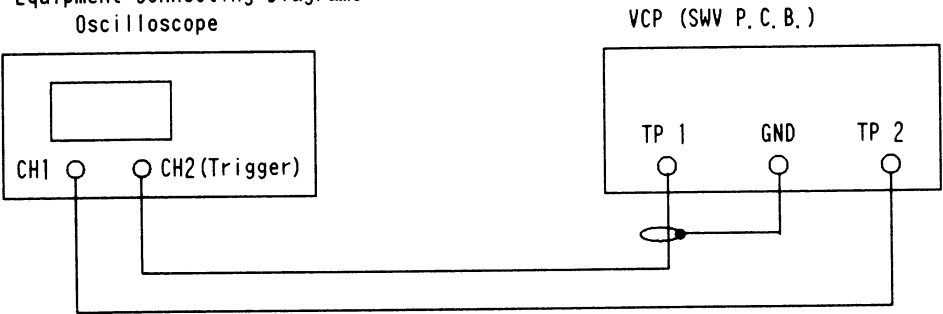

Fig. 8
1. Connect the equipment as shown in Fig. 8.